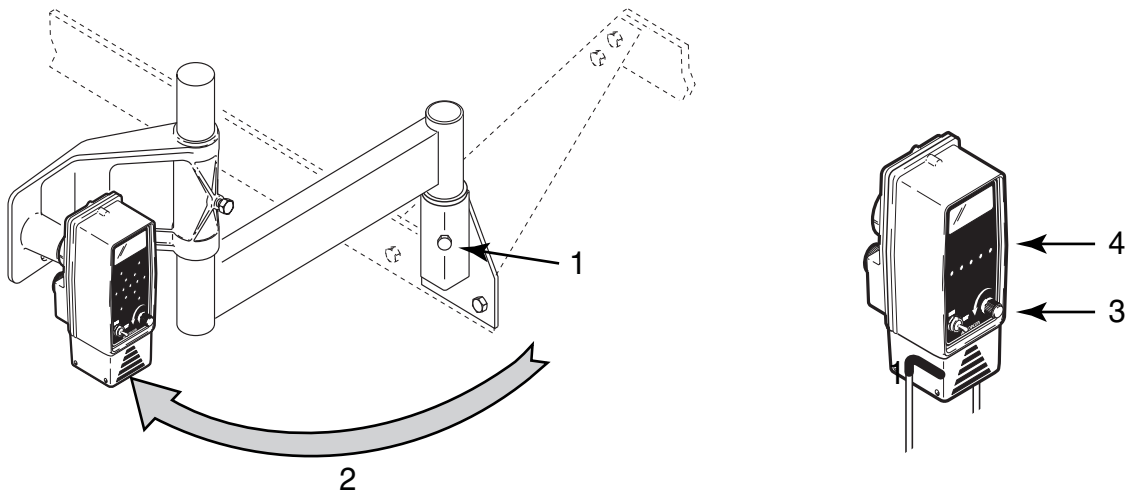

Figure 4-20. TopCon IV Sonic Grade Sensors
1. Loosen the "Z"-Arm bolt (**Figure 4-20,1**), and swing the "Z"-Arm out beyond the end gate (**Figure 4-20,2**).
3. Turn the Grade Adjustment Knob (**Figure 4-20,3**), on the sonic tracker counterclockwise (CCW) until an On Grade symbol appears (**Figure 4-20,4**).